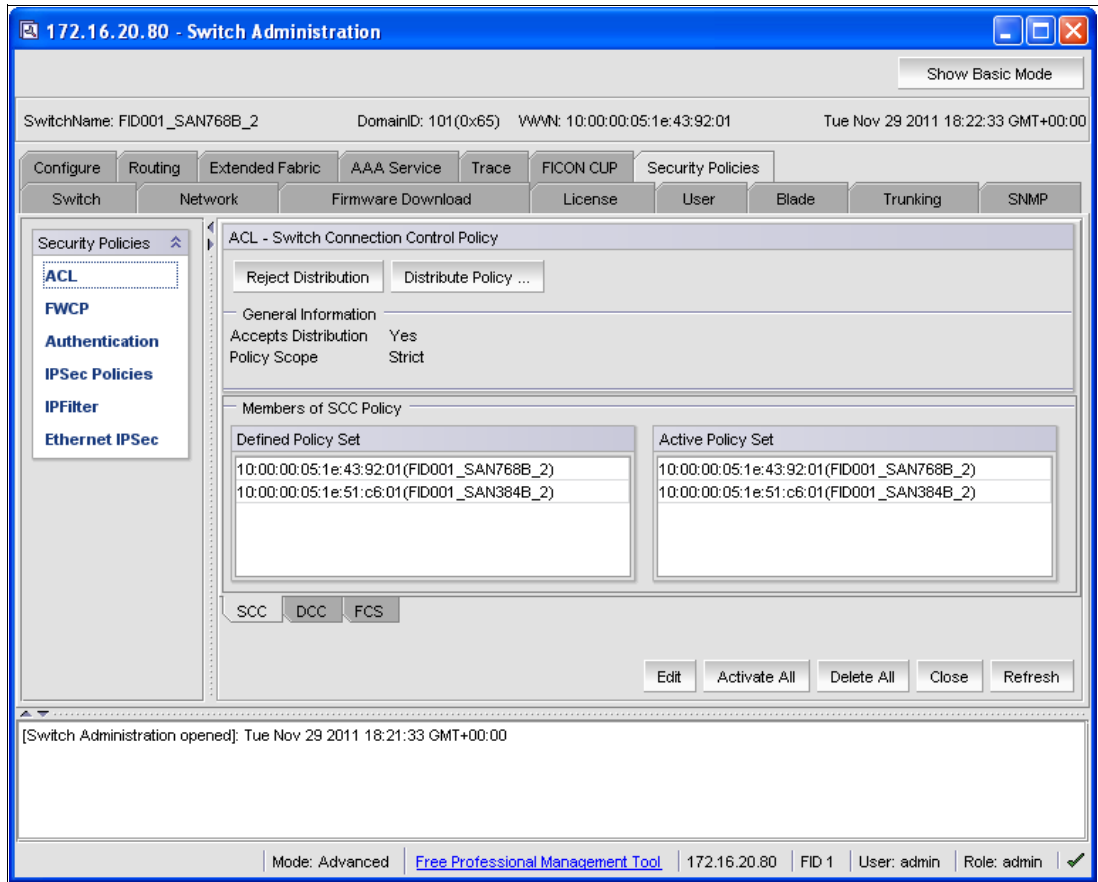

Figure 8-67 SCC policy activated
15. Back in the Switch Administration window, you now see Defined Policy Set. Click **Activate All** to activate the Policy, as shown in Figure 8-67 on page 308.